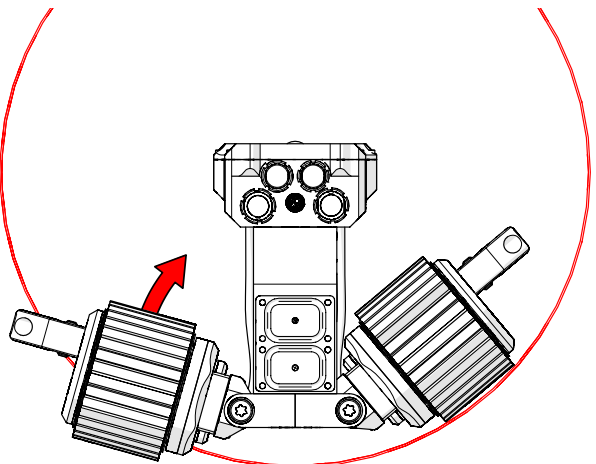

Fig. 87 - Adjust the angle of the modules to match pipe
2. Adjust crawler's track modules to the correct angle, matching that of pipe diameter (Fig. 87).